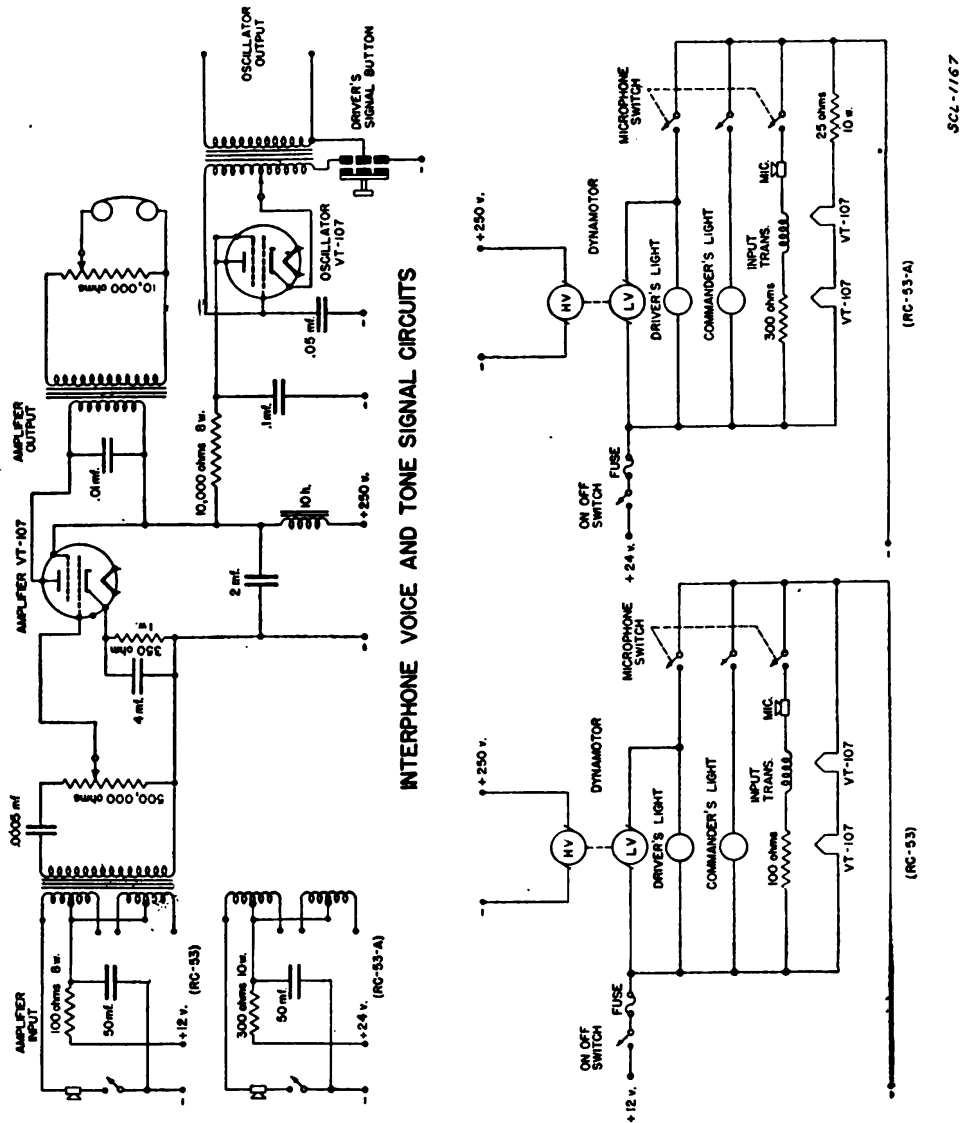

FIGURE 7.—Interphone amplifier BC-367, or BC-667, schematic circuit.
**5. Electrical features.**—*a. Interphone amplifier BC-367 or BC-667.*—(1) This unit contains two separate circuits, oscillator and amplifier. (See fig. 7.) The oscillator circuit is used to generate an audio signal of approximately 600 cycles to provide a means for the driver to signal when he wishes to speak to anyone on the radio side of the system. This audio voltage is impressed across the input of the second audio if radio receiver BC-312-( ) is used, or across the output if radio receiver BC-683-( ), BC-603-( ), or BC-652 is used. The amplifier is of the transformer-coupled type and provides a maximum output of over 2 watts. The rising characteristic from 100 cycles to 2,500 cycles (attenuation at lower frequencies) tends to compensate for the poor high-frequency response of microphone T-30-A and prevent excessive noise pick-up. The input transformer consists of a two-winding primary with each winding center-tapped, and a single-wound secondary. The audio frequency voltage after being stepped up by the input transformer is applied through a potentiometer